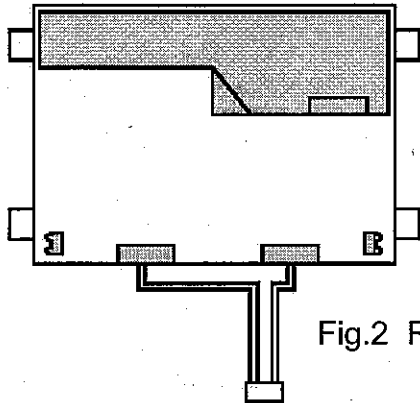

Fig.2 Rear view of a TFT-LCD Module
- (6) Materials included acetic acid and choline should not be used for a cover case as well as other parts and boards near a module. Acetic acid attacks a polarizer. Choline attacks electric circuits due to electro-chemical reaction.
- (7) The polarizer on a TFT cell should carefully be handled due to its softness , and should not be touched , pushed or rubbed with glass , tweezers or anything harder than HB pencil lead. The surface of a polarizer should not be touched and rubbed with bare Hand , greasy clothes or dusty clothes.
- (8) The surface of a polarizer should be gently wiped with absorbent cotton , chamois or other soft materials slightly contained isopropyl alcohol when the surface becomes dirty. Isopropyl alcohol as cleaning chemicals is recommended in order to clean adhesives which fix front / rear polarizers on a IPS TFT cell. Other cleaning chemicals such as acetone , toluene and normal-hexane should not be used to clean adhesives because they cause chemical damage to a polarizer.
- (9) Saliva or water drops should be immediately wiped off. Otherwise , the portion of a polarizer may be deformed and its color may be faded.
- (10) The module should not be opened or modified. It may cause not to operate properly.
- (11) Metallic bezel of a module should not be handled with bare hand or dirty gloves. Otherwise , color of a metallic frame may become dirty during its storage. It is recommended use clean soft gloves and clean finger stalls when a module is handled at incoming inspection process and production (assembly) process.
- (12) Lamp(CCFL) cables should not be pulled and held.
(13) Don't push the hatched area as shown in Fig.2.